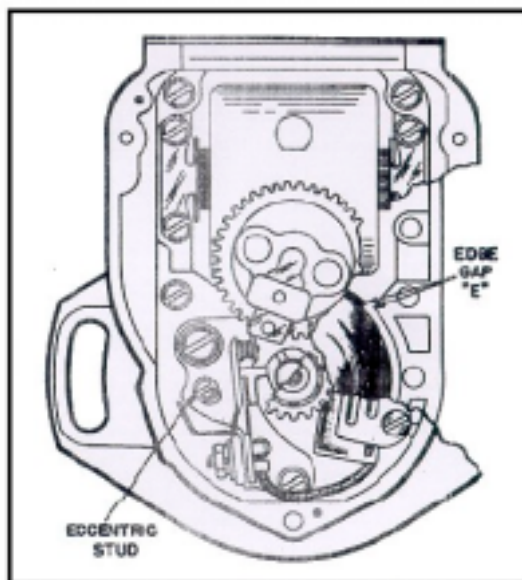

Figure 25. Checking Edge Gap
3.5 mm (.59 - .138 inches). (See figure 25). Where cam H27-635 is supplied, but no impulse starter is used, the edge gap limits are 0.2 mm - 2.2 mm (.008 - .086 inches). The number "7" is stamped on one end of cam H27-635 for identification.